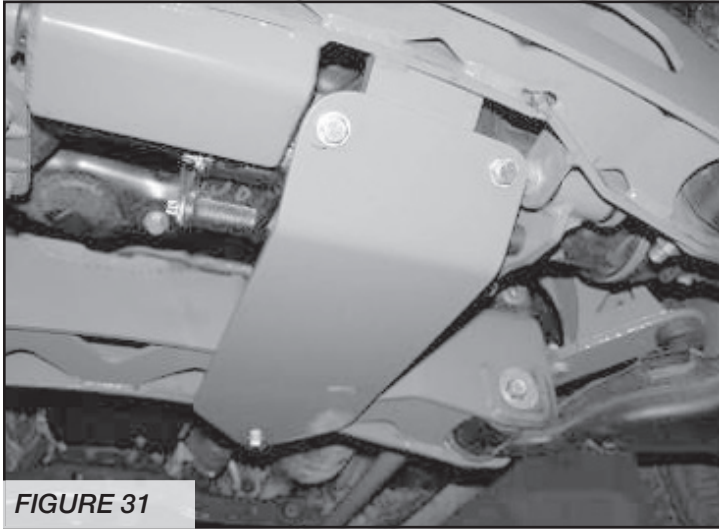

FIGURE 31
24. Locate FT70058 skid plate. Attach using the supplied hardware (front mount) 5/16"x1 1/4" bolts, nuts, and washers (rear mount) 1/2"x 1 1/2" bolt, nut, and washer. Leave loose. **SEE FIGURE 31**